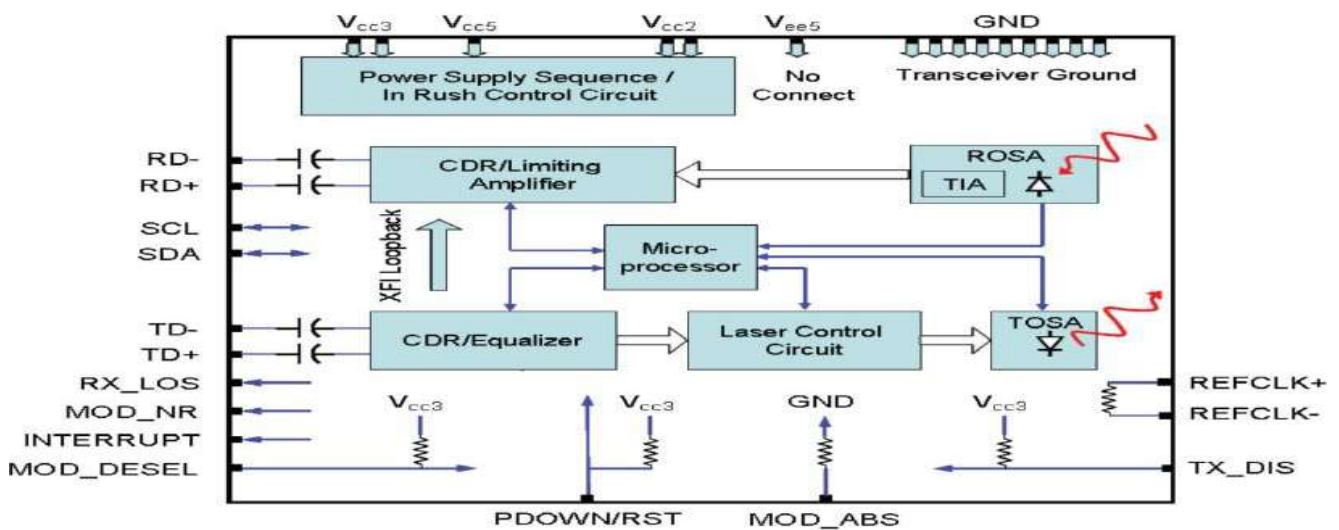

Figure 1. Functional block diagram
The Alpha Bridge Technologies tunable XFP optical transceiver is a full-duplex serial electric, serial optical device with both transmit and receive functions contained in a single module that provides a high-speed serial link at signaling rates from 9.95 Gbps to 11.35 Gbps. It is designed to be compliant with the ITU-T G.698.1 DN50S-2D2(C) standard with 50 GHz ITU grid channel spacing for 80 km reach (SONET or SDH), IEEE 10GBASE-ZR and 10GBASE-ZW DWDM for 80 km reach (Ethernet), and 10GFC DWDM for 80 km reach (Fibre Channel) applications. The transceiver is also fully compliant with the 10 Gigabit smallform factor XFP pluggable module multisource agreement INF8077i Rev. 4.5. A block diagram of the transceiver is shown in Figure 1.